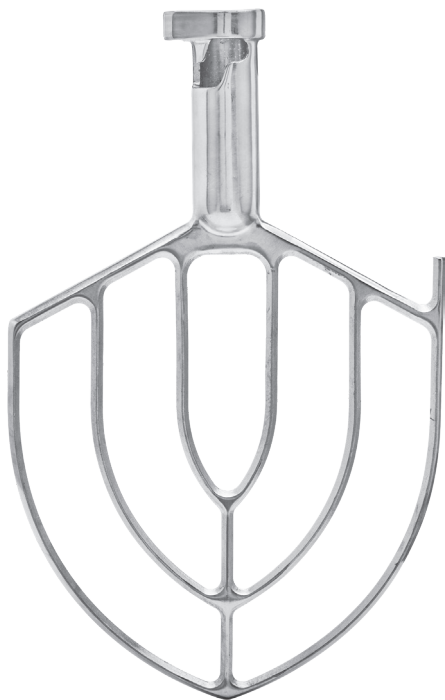

Fig. 8
- Open the bowl guard wire cage; rotate it to your right (Fig. 8).